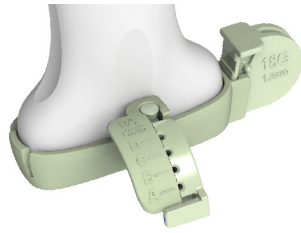

Figure 5. UA1338 mounted on 14L3 (shown here without transducer cover).
- 7 Fig. 5 shows the needle guide mounted on the transducer.